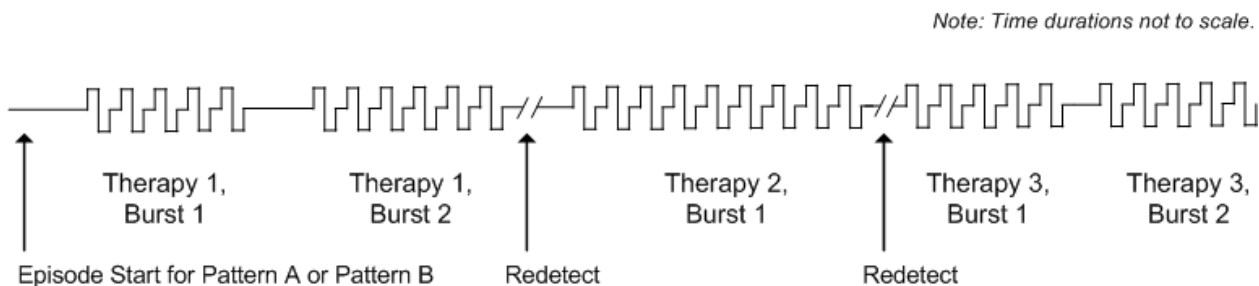

Figure 35: A THERAPY SEQUENCE DELIVERED IN RESPONSE TO ANY EVENT DETECTOR
- Up to two bursts may be selected to be delivered in response to any event detector as depicted in Figure 35.